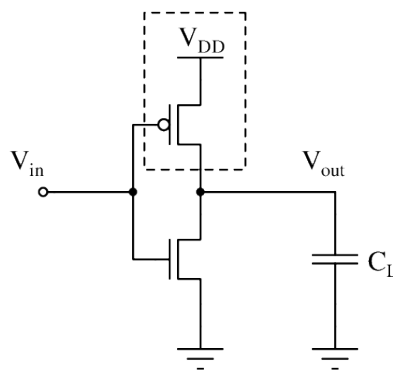

Fig. 5
- (b) A CMOS inverter is constructed with an NMOS transistor and a PMOS transistor, as shown in Fig. 5. Its output is loaded with a capacitor C_L .
- (i) Sketch the cross-sectional device structure of the PMOS transistor that is inside the dashed region in Fig. 5. Assume the inverter was fabricated in the conventional